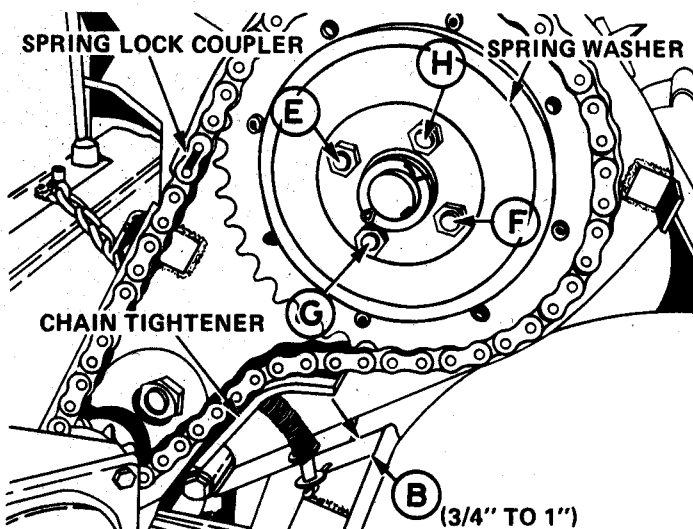

Figure 21
The external drive chain is properly adjusted when distance B, Figure 21, is from $\frac{3}{4}$ " to 1".
3. Pry link arms up until the chain pushes the curved tightener spring rod outward $\frac{3}{4}$ " to 1", Figure 21.
2. Loosen nuts E, F, G, and H, Figure 21, then tighten them finger-tight.
3. Remove the external drive chain and clean it thoroughly with diesel fuel. Immerse chain in clean oil, allow it to drain completely, then re-install it on the tiller. **NOTE:** The chain can easily be removed by removing the chain shield, then disconnecting the chain at the spring lock coupler, Figure 21.